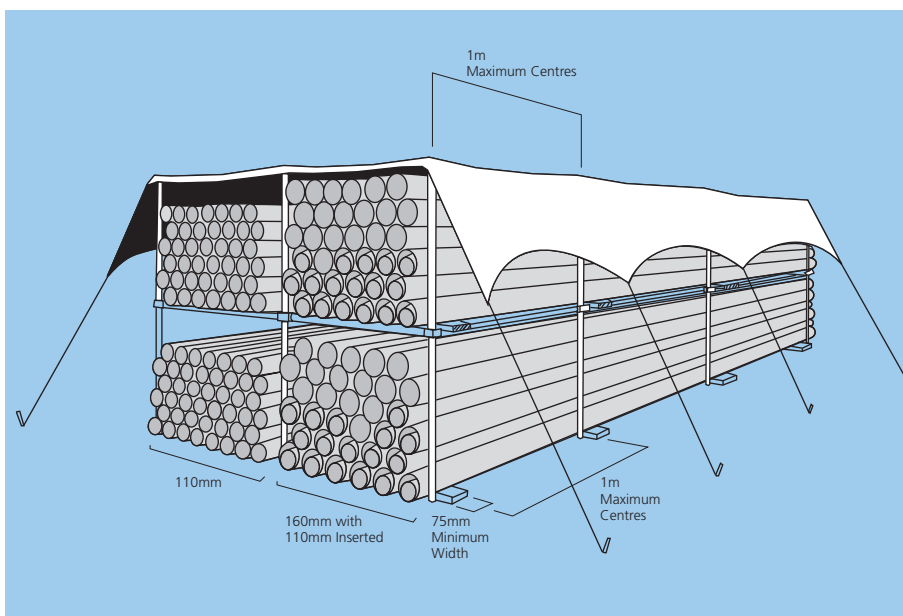

Fig. 6
- Provide side support with 75mm wide battens at 1m centres (see Fig.6).